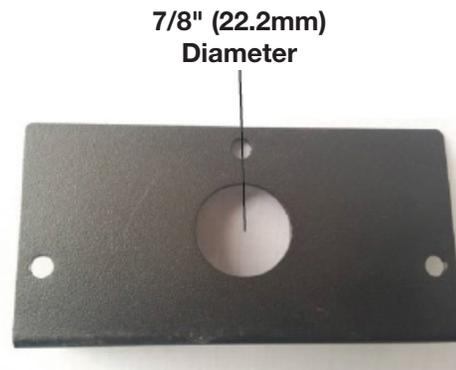

FIG. 2
- C. Take the new cover plate, supplied in the hardware bag (FIG. 2). Punch out the 7/8" (22.2mm) hole and install a box connector through, into the junction box. Snap the box connector clamp onto the supply wires.